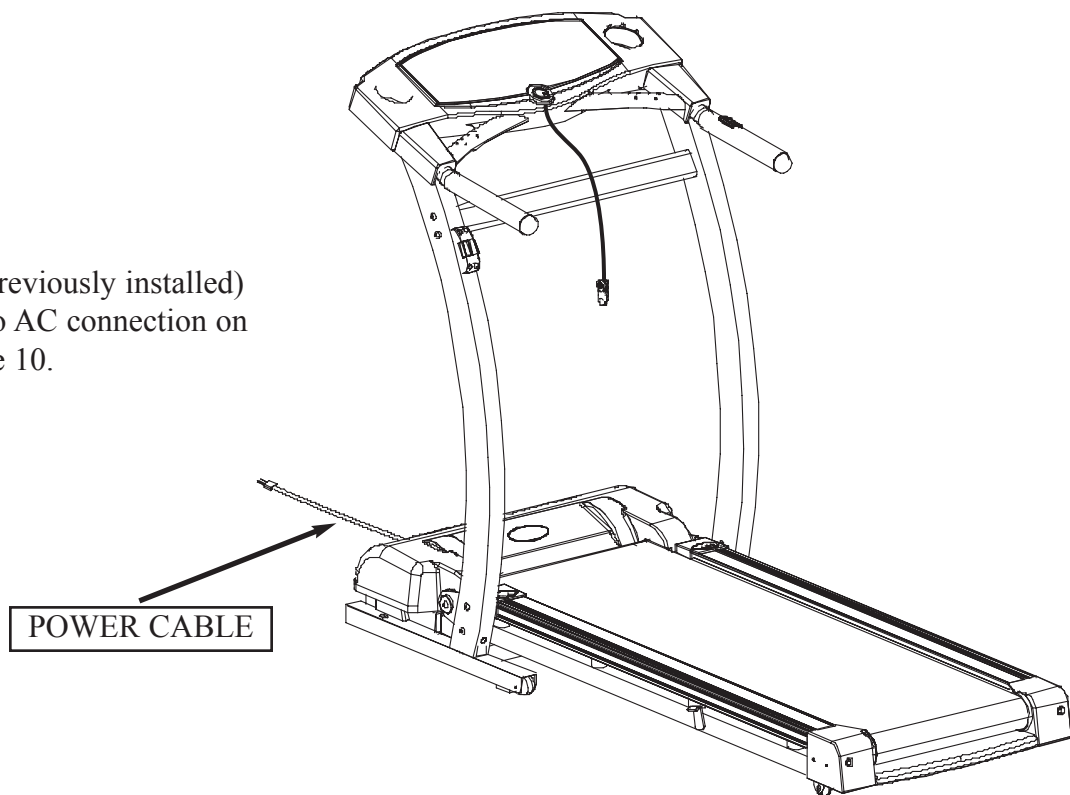

Figure 10: Power Cable Connection
11. Tighten all hardware (previously installed) and insert Power Cable into AC connection on rear of unit. Refer to Figure 10.